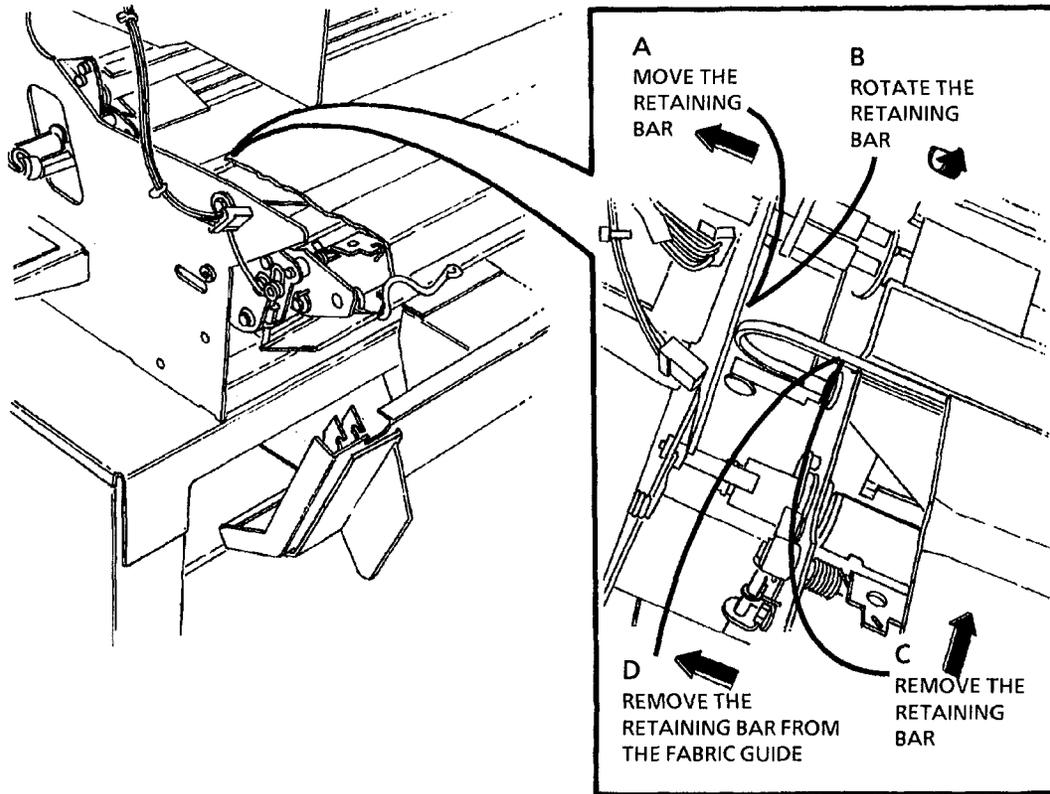

Figure 10. Remove the Retaining Bar from the Fabric Guide
14. (FIGURE 10): REMOVE THE RETAINING BAR FROM THE FABRIC GUIDE.